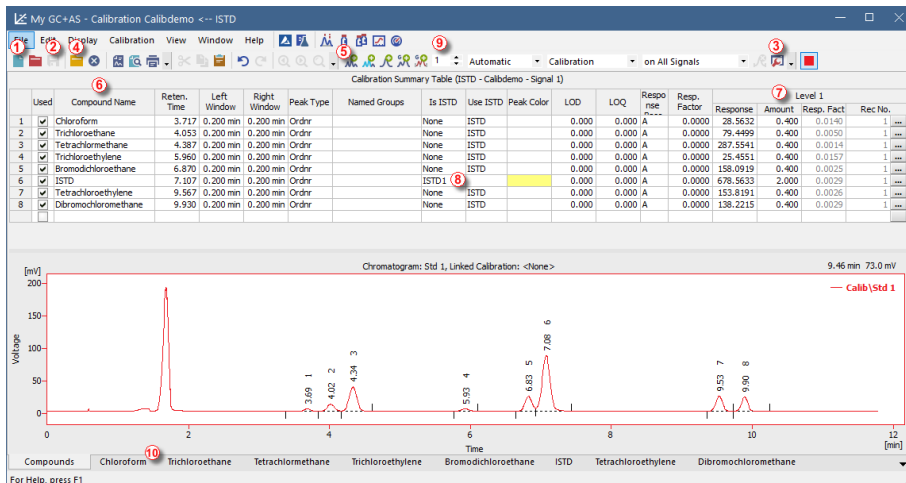

Fig 9: Calibration window - loaded standard
- Only one signal of the chromatogram can be active at a time. The active signal can be recognized from the legend section ① in the upper right corner of the graph (active signal is set in bold), from the icons in the **Overlay** toolbar ② (the active signal has the highlighted ■ icon) or from the graph outline color and table headers color. Values inside the tables change by changing the active signal.
- Change the active signal by double clicking on its name in the legend section ①. Change the color of the currently active signal to another one
- by clicking on the *Not used color*  icon in the *Overlay* toolbar. All parts of the **Chromatogram** window mentioned in the previous step will change color. Return to the former active signal by clicking on its (now raised ) icon in the *Overlay* toolbar ②.
- Click on any row in the *Result table* ③. The peak (or peaks) corresponding to the row you just clicked onto will change color according to the color of the signal. This change will last until the focus in the *Result table* is canceled.
- To add permanent color to the peak, click the *View* button ④ in the right side of the **Results** tab. This will get you to the linked calibration file. There, in the *Calibration Summary Table*, find the *Peak Color* column (see **Fig 9** on pg 22.). In the row corresponding to the peak to be colored select the appropriate color and click *OK*. Return to the **Chromatogram** window by using the  icon in the menu. The selected peak is now colored according to the color selected in the **Calibration** window.
- You can change the integration of peaks by using the interactive icons on the toolbars on the left side of the **Chromatogram** window ⑤ or directly on the **Integration** tab ⑥. Any changes made either way will change the **Integration table** and can be copied to the template method. To do so, click on *Method - Save as Template...* menu comand.
- Check that the **Current Level** field **9** is set to 1 in order to set the calibration level number 1. Use the **Add All** icon (blue) **5** to move all identified peaks to the calibration table. The Calibration table appears in the **Calibration** window, ready to be completed as seen on **Fig 9** on pg 22.
- As it can be clearly seen in the calibration, particular peaks are now identified according to their retention times only. Click and edit the fields in the **Compound Name** column **6** to those seen on **Fig 9** on pg 22. You may also set the peak color for some peak, for example the ISTD peak, in the **Peak Color** column.